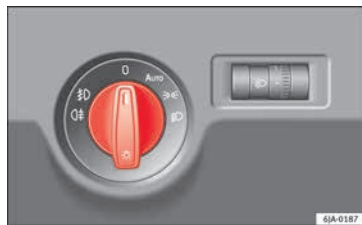

Fig. 129 Instrument panel: light control. »
The location of the controls of **right-hand drive** cars differs slightly from the location shown here » **Fig. 129** » page 121. However, the symbols indicating the respective positions of the controls remain the same.
- Turn the light switch » Fig. 129 to position $\Rightarrow \leftarrow$.
- Turn the light switch » Fig. 129 to position 0.
in position 0 or AUTO » Fig. 129. It is automatically switched off when the side lights are turned on.
If the light switch is in this position **AUTO** \ggg Fig. 129, the side lights, headlights and the number plate lights will turn on or off automatically.